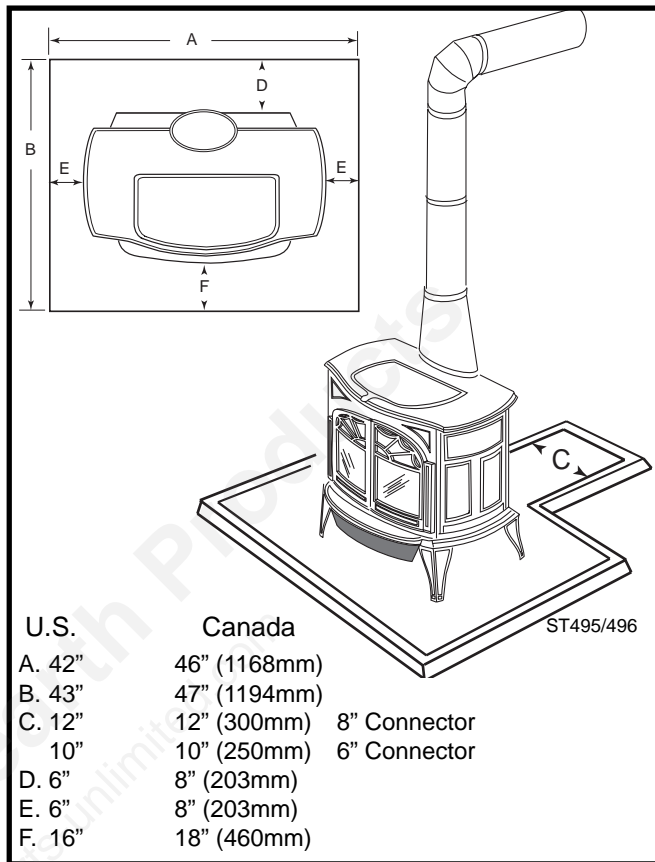

Fig. 10 Required floor protector dimensions.
**In U.S. installations**, the floor protector is required under the stove and must extend at least 16 inches (not including the ash lip) from the front of the stove ('F', Fig. 10), and at least 6 inches from the sides and rear ('D' and 'E', Fig. 10).
It must also extend under the chimney connector and 2 inches to either side ('C', Fig. 10). For the 8" (200 mm) connector, the protector must be a minimum of 12" (300 mm) wide. For the 6" (150 mm) connector, the protector must be 10" (250 mm) wide. The protector must be centered under the connector.
**In Canada**, a noncombustible floor protector is required under the heater also. The floor protector must extend 18 inches (460 mm) to the front ('F', Fig. 10), and 8 inches (203 mm) from the sides and rear ('D' and 'E', Fig. 10).